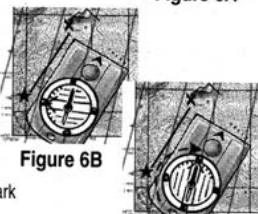

Figure 6B
- Align the side edge of the Base Plate with your present location and destination on the map. (Figure 6B)